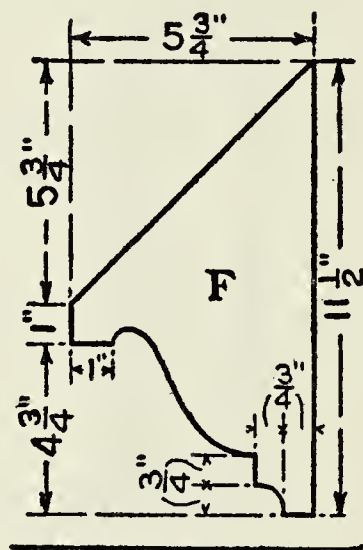

FIG. 306. PATTERN FOR CANOPY BRACKETS
The Canopy is supported by the post ends and the four brackets (F). Cut the brackets out of 2-by-6-inch stuff, laying them out by the pattern of Figure 306. The slope of the top of the brackets must be exactly the same as the slope of the post ends. It will be the same if you mark it as shown and saw